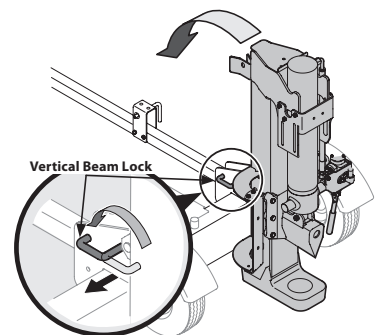

Figure 4
12. Pull out the vertical beam lock, rotate it back, and pivot the beam to the horizontal position until it locks. Be sure to avoid any possible pinch points. See Figure 4.